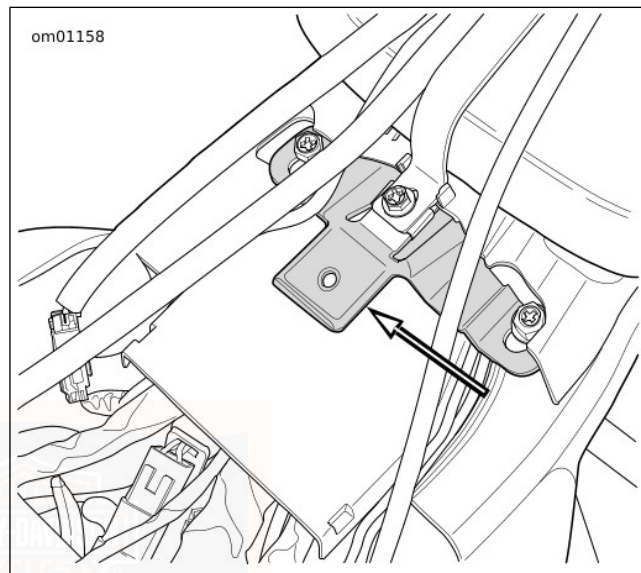

Figure 98. Seat Tongue
3. See Figure 98. While pushing seat forward, raise rear of seat until bracket clears top of body assembly. Push seat rearward slightly to free seat from tongue on rear fuel tank bracket.
4. See Figure 98. While pushing seat forward, raise rear of seat until bracket clears top of Tour-Pak. Push seat rearward slightly to free seat from tongue on rear fuel tank bracket.